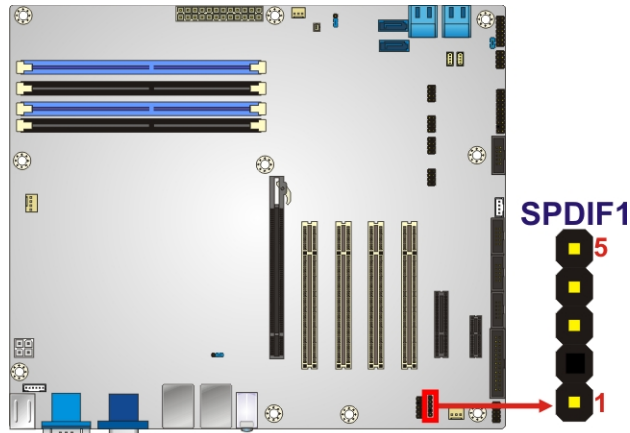

Figure 3-23: SPDIF Connector Location
- CN Location:** See **Figure 3-23**